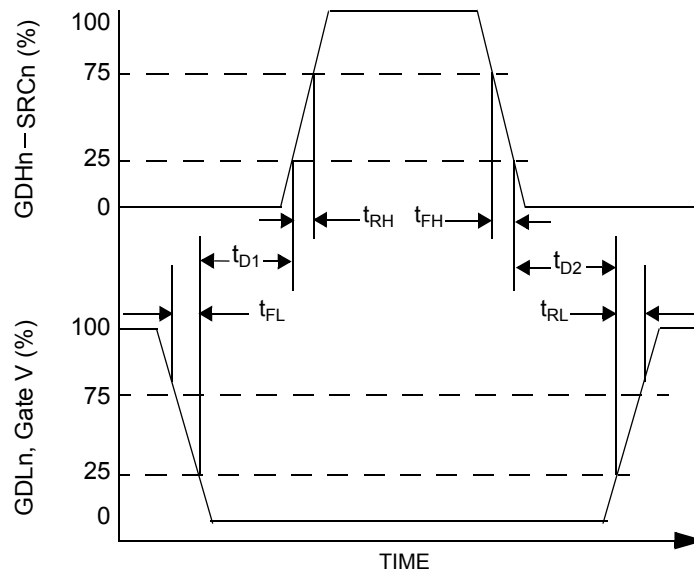

Figure 2. Shoot-Through Suppression
7. See Figure 2, page 9.
The control logic block controls when the low-side and high-side drivers are enabled. The logic implements the Truth Table found in the specification and monitors the M0, M1, PWM, CL, OT, OV, LSE, and HSE terminals. Note that the drivers are enabled 3 μs after the PWM edge. During complimentary chop mode the high-side and low-side drives are alternatively enabled and disabled during the PWM cycle. To prevent shoot-through current, the high-side drive turn-on is delayed by t_{D1} , and the low-side drive turn on is delayed by t_{D2} (see Figure 2, page 9).